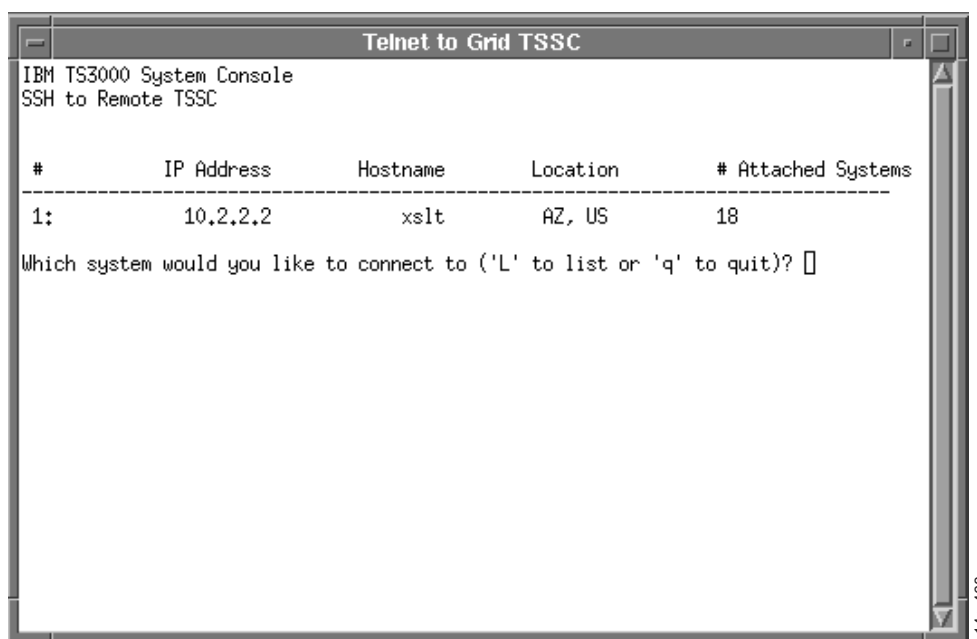

Figure 150. Telnet to Grid TSSC
2. From the Main Menu, select **System Console Actions > Telnet to Grid TSSC**. You see the screen shown in Figure 150. Information about each Grid system as it is available, including IP address, hostname, and location are displayed.